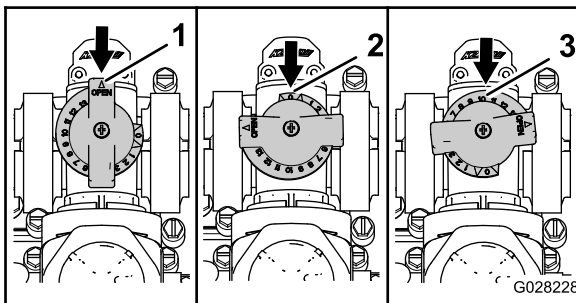

Figure 49
- The agitation-bypass valve is in the full OPEN position as shown in Figure 49.
- The agitation-bypass valve is in the CLOSE (0) position as shown in Figure 49.
- The agitation-bypass valve is in an INTERMEDIATE (adjusted relative to the pressure gauge for the sprayer system) position as shown in Figure 49.